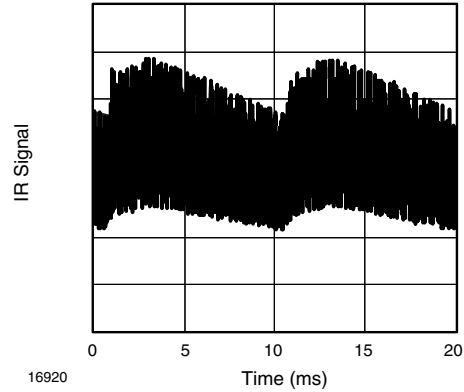
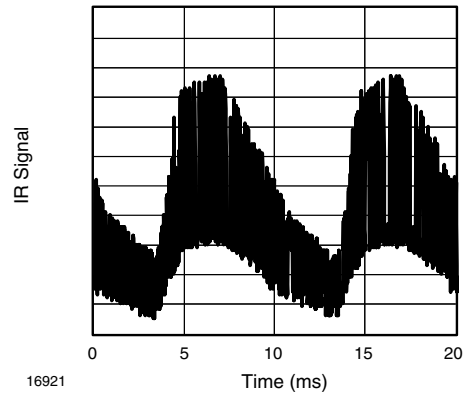

Fig. 12 - IR Signal from Fluorescent Lamp with Low Modulation
Fig. 13 - IR Signal from Fluorescent Lamp with High Modulation
- Strongly or weakly modulated noise from fluorescent lamps with electronic ballasts (see fig. 12 or fig. 13)